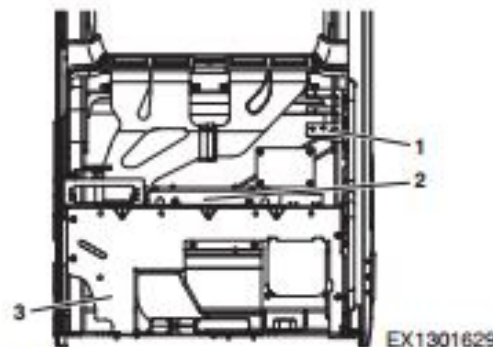

Figure 19
12. Install brackets (1 thru 3, Figure 19) on body of operator's cabin.